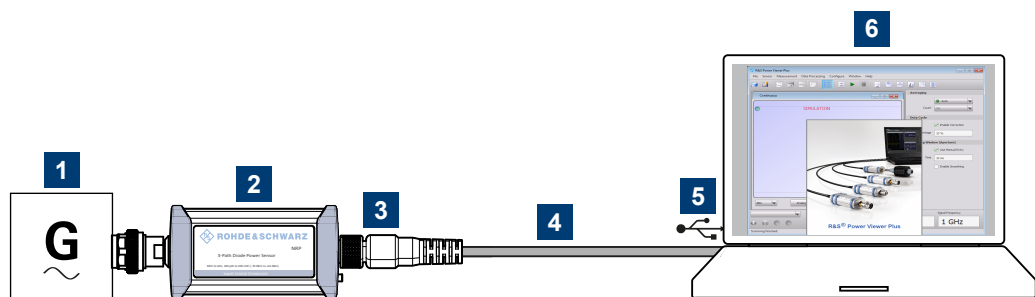

Figure 5-3: Setup with the R&S Power Viewer
2. Connect the cables as shown in Figure 5-3.